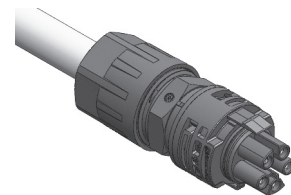

Figure 6
**Step 6 Assembly is complete. (See figure 6)**